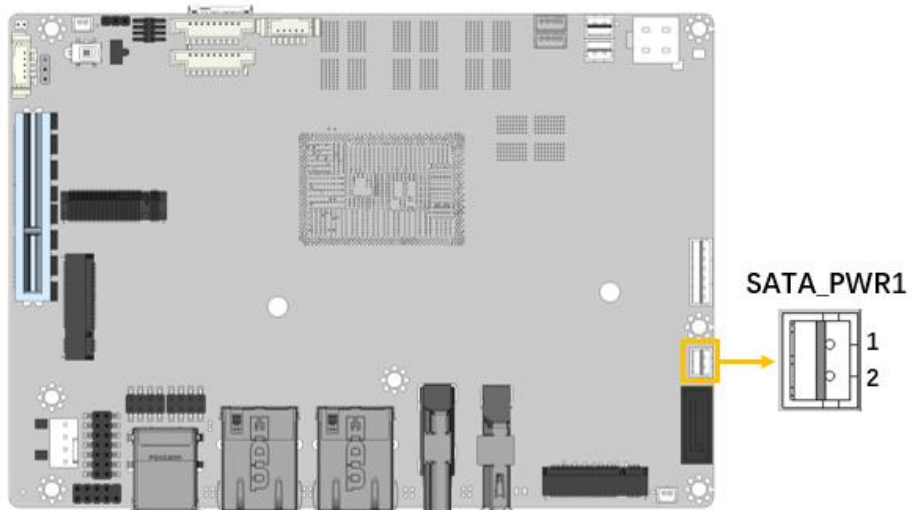

Figure 3-17: SATA Power Connector Location
- CN Location:** See **Figure 3-17**